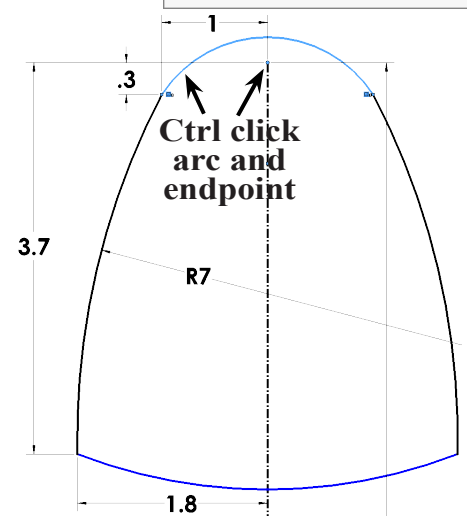

Fig. 9
Step 4. **Ctrl click top arc and top endpoint of vertical centerline** to select both. Release Ctrl key and click **Make Coincident**  on the context toolbar, **Fig. 9**.